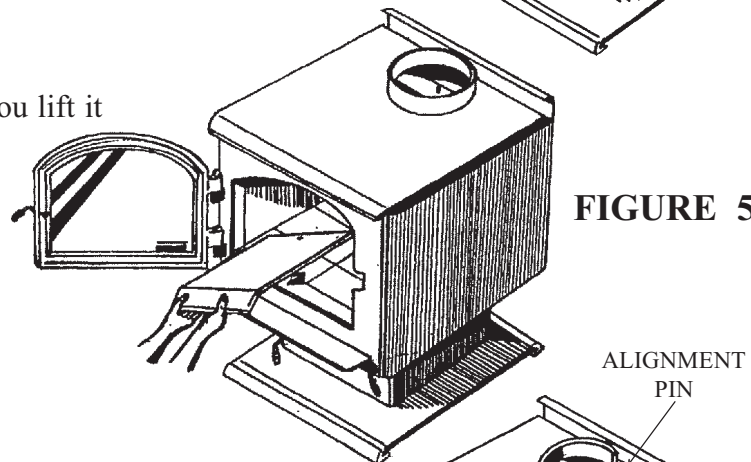

FIGURE 5
7. Keep the baffle tilted as you lift it out the door. **See Figure 5.**